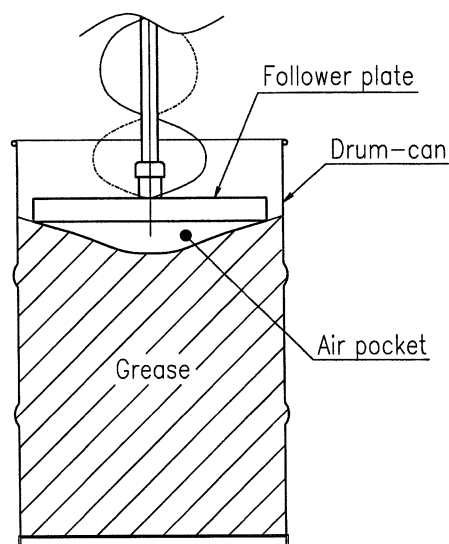
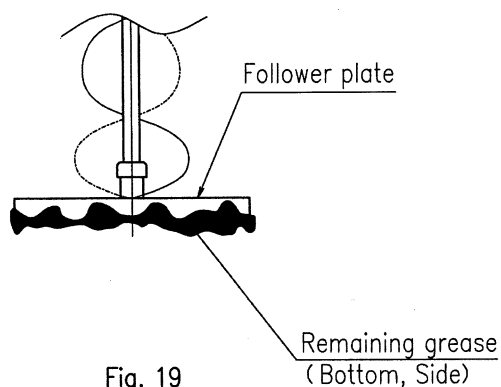

Fig. 18
Fig. 19
After finishing of descending of Lifter, be sure to push Safety stopper forward to the end (Fig. 18), put the lever of Manual valve back to "STOP" from "DOWN". (Fig. 19)
- ② If the grease in center of drum-can forms a hollow, Air pocket appears and may cause air mixed. (Fig. 18)
- ③ Remaining grease on Follower plate makes contact face between bottom of Follower plate and grease to be uneven, may cause air mixed. So, after making Lifter go up, clean bottom and side of Follower plate. (Fig. 19)